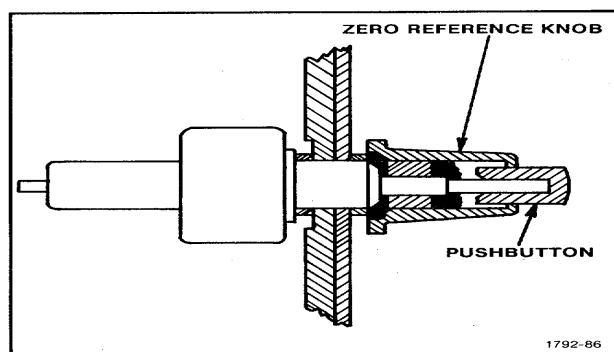

Figure 5-33. Installation of knob on ZERO REFERENCE control.
- 2. Assemble the knob and pushbutton on the control shafts as shown in Fig. 5-33.